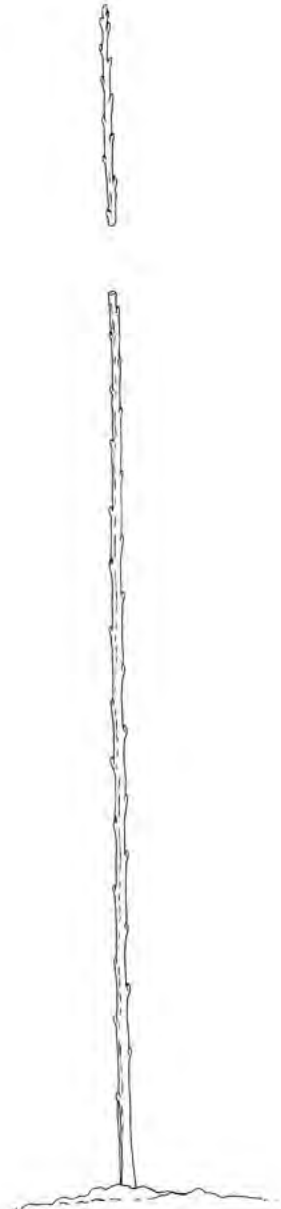

Figure 23
- Head nursery tree 30–36 inches above ground, depending on desired height of the future steep leaders (Figure 23).